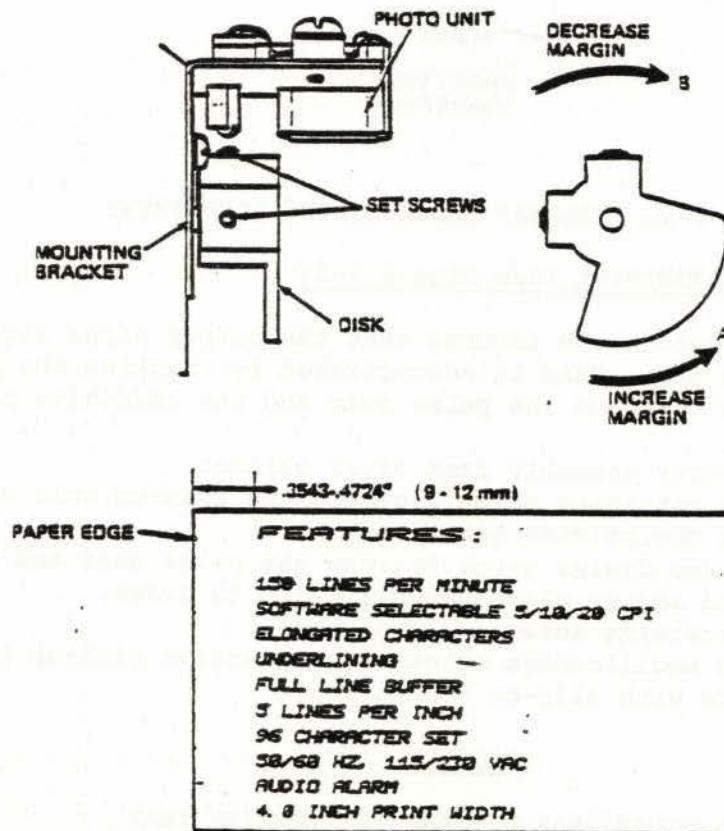

Figure 6-3. "BETA" PULSE TIMING ADJUSTMENT
#### 6.4 BETA SIGNAL ADJUSTMENT (See Figure 6-3)
- (1) Print a sample page and measure the distance from the left edge of the paper to the first printed character.
- (2) If adjustment is necessary, remove printer assembly from cabinet.
- (3) Loosen the two set screws securing the disk to the mounting bracket.
- (4) Move the disk clockwise slightly to decrease the margin (B in Figure 6-3) or counterclockwise to increase (A in Figure 6-3). Rotation is as viewed from the rear.
- (5) Tighten set screws and repeat steps (1) through 4) as required to obtain the correct margin.
- (6) Replace printer assembly.